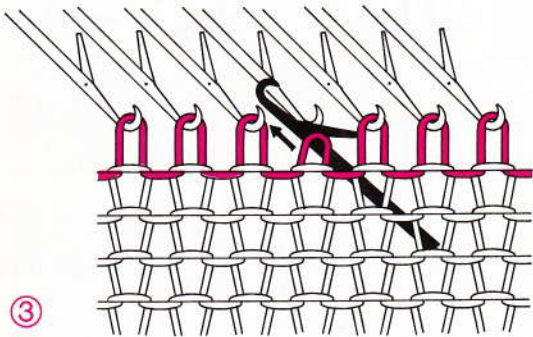

Fig. 220
- Push the latch tool forward again so that the new stitch slips behind the latch and the next thread is in the hook. Pull the latch tool backwards, and so on to the top of the knitting (fig. 220).